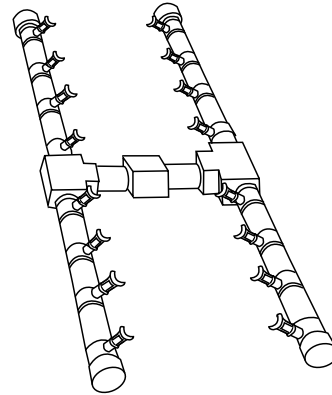

Fig. 5 Shows burner with nipple installed.
**Step 1:** Install the nipple into the Pro Spur burner (Fig. 5).